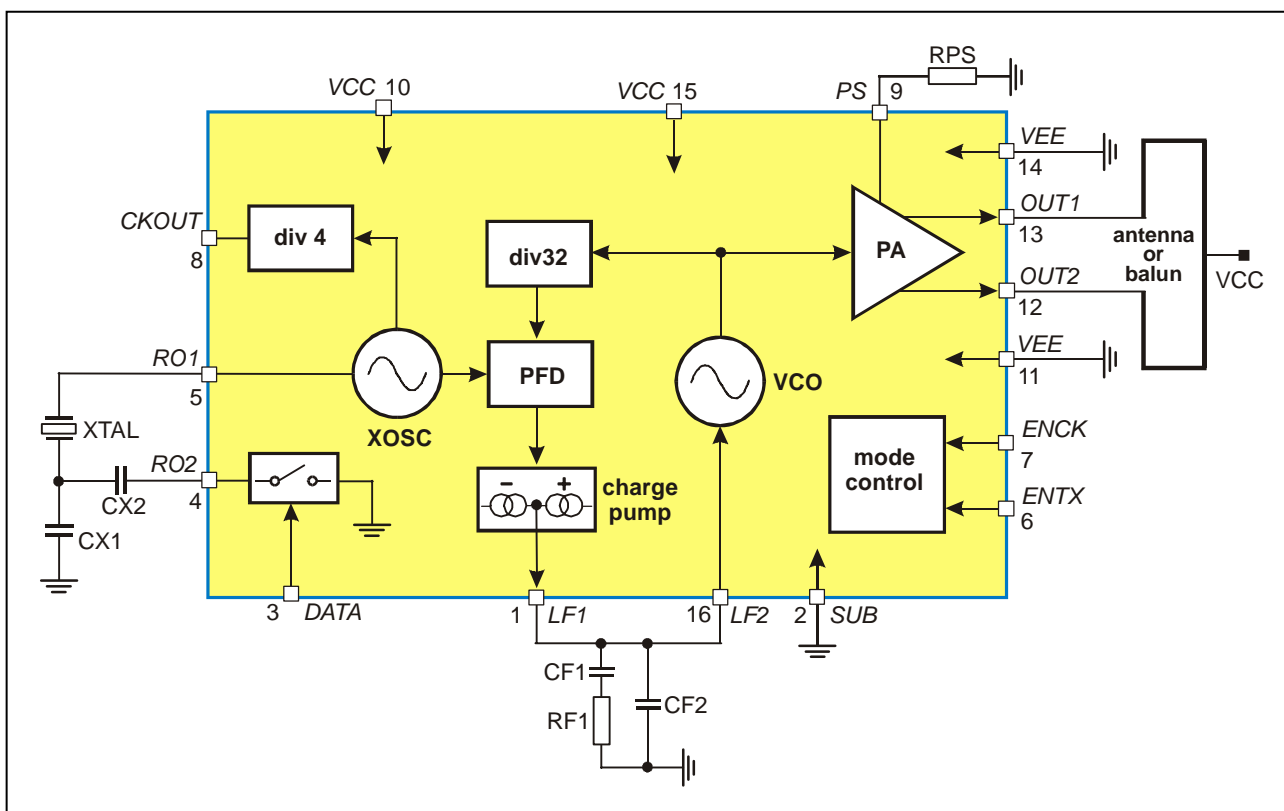

Fig. 1: Block diagram with external components
As depicted in Fig.1, the TH71071 transmitter consists of a fully integrated voltage-controlled oscillator (VCO), a divide-by-32 divider (div32), a phase-frequency detector (PFD) and a charge pump. An external loop filter at pin LF determines the dynamic behaviour of the PLL and suppresses reference spurious signals. The VCO's output signal feeds the power amplifier (PA). RF signal power P_o can be adjusted in six steps from $P_o = -12$ dBm to +2 dBm either by changing the value of resistor R1 or by varying the voltage V_{PS} at pin PS/DATA. The open-collector differential output (OUT1, OUT2) can be used to either directly drive a loop antenna or to be converted to a single-ended impedance by means of a balanced-to-unbalanced (balun) transformer. For maximum available output power, the differential output should be matched to a load of about 1 k Ω .